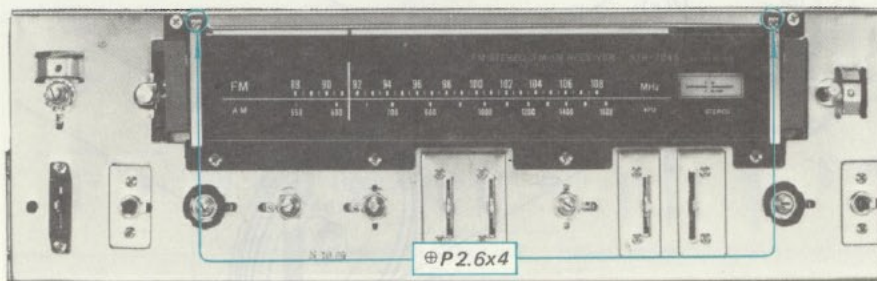

Fig. 2-11. Dial scale removal
3. Remove the two screws ($\oplus P 2.6 \times 4$) securing the dial-scale holder to the front subchassis as shown in Fig. 2-11.